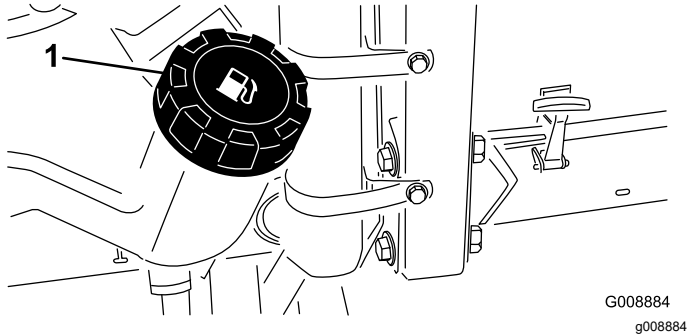

Figure 28
2. Clean the area around the fuel-tank cap (Figure 28).